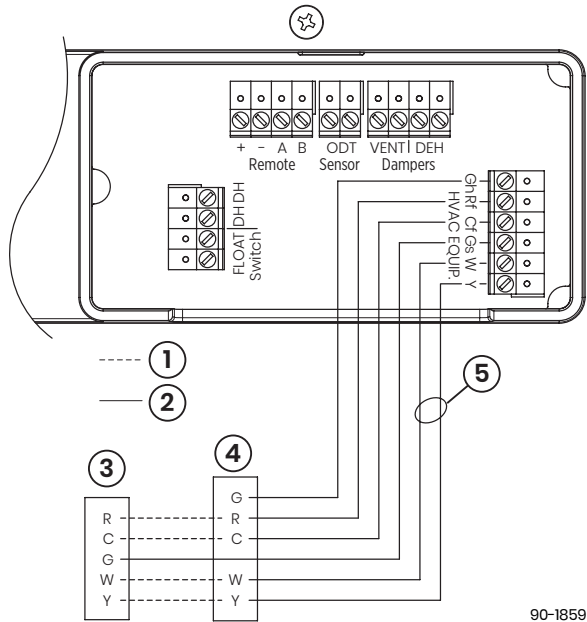

Figure 20: Wiring to HVAC System
- When ducting from return to return, wire the dehumidifier to the HVAC system as shown in *Figure 20* to ensure the HVAC blower runs when the dehumidifier is operating.
- Wire the dehumidifier to the HVAC system (*see Figure 20* for exact wiring) and set up the dehumidifier to be disabled when the AC is running.
- Wire the dehumidifier to the HVAC system as shown in *Figure 20* and set up the dehumidifier to be disabled when the AC is running.
When the dehumidifier is ducted to the HVAC system, it is recommended that it also be wired to the HVAC system as shown in **Figure 20**. If ducted to the HVAC system in a return-to-return configuration, the dehumidifier **must** be wired to the HVAC system to prevent short-circuiting dehumidified air directly back to the dehumidifier inlet. In a return-to-supply ducting configuration, running the HVAC fan with the dehumidifier ensures the warm dry air is mixed with room air before being discharged to the home.